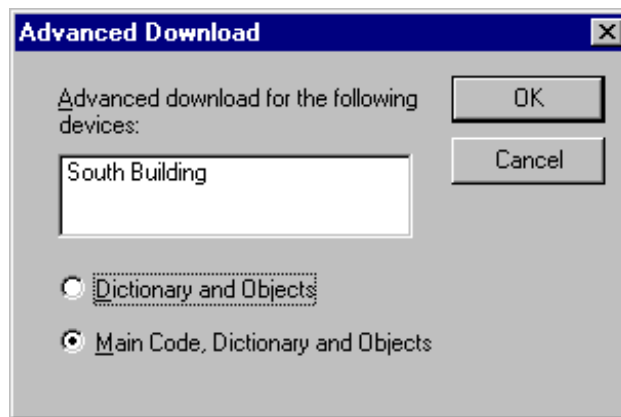

Figure 11-5: Advanced Download Dialog Box
2. Select Advanced Download on the Tools menu. The Advanced Download dialog box appears (Figure 11-5).